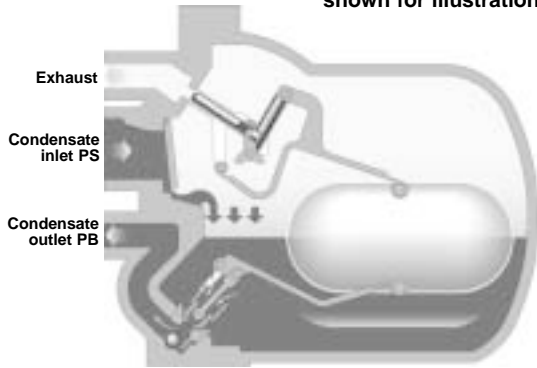

Fig. 4
Step 1 (Fig. 4)
The APT10 automatic pump trap operates on a positive displacement principle. Condensate enters the body through the inlet swing check valve causing the float to rise. The float is connected to the trap mechanism via a lever to pivot arrangement. If the upstream system pressure PS is sufficient to overcome the back pressure PB (Fig. 4), the build up of condensate will be discharged through the opening trap mechanism. In this way, the float will automatically modulate according to the rate of condensate entering the APT10, controlling the rate of opening and closure of the trap.